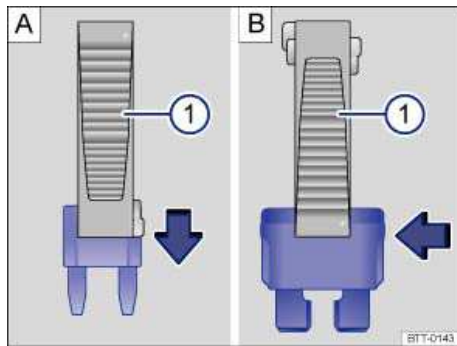

Fig. 199 Removing or inserting a fuse using the plastic tweezers 1.
- ☐ For *small fuses*, slide the tweezers ⇒ fig. 199 \(1\) onto the fuse from the top **A**.
- ☐ For *larger fuses*, slide the tweezers (1) onto the fuse from the side **B**.